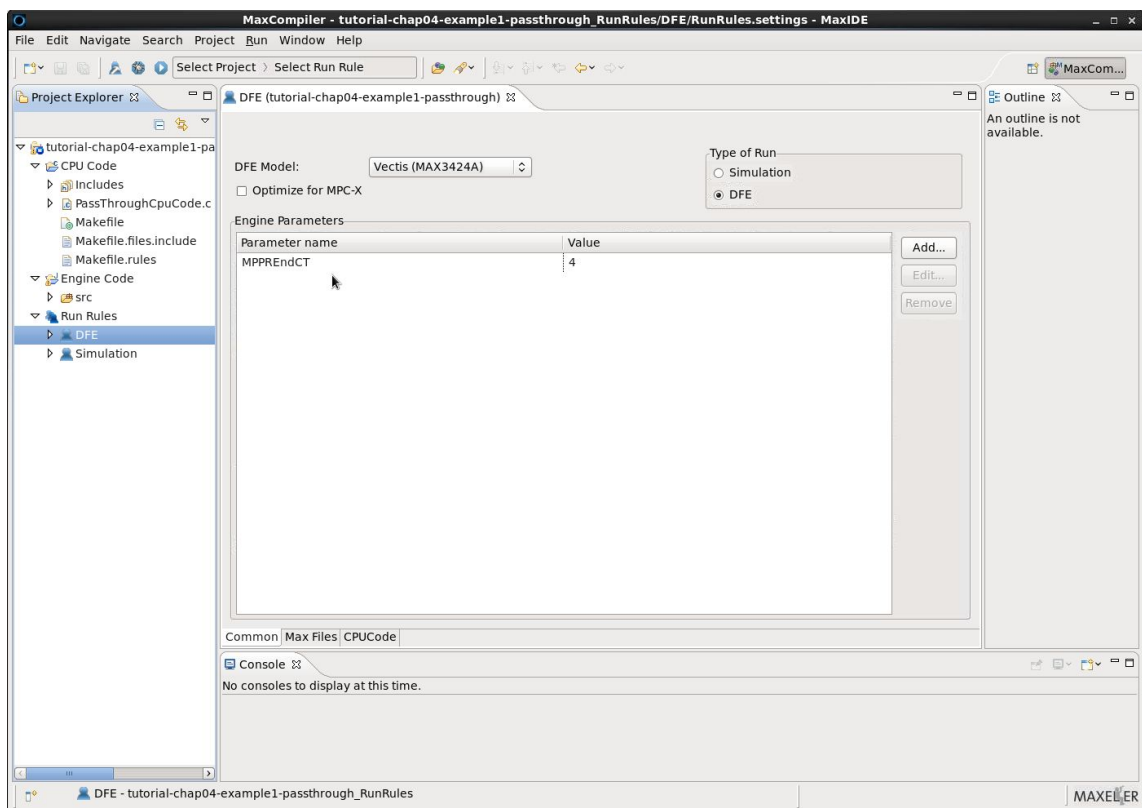

Figure 6.1: MaxIDE: Set number of the last cost table to be used
The process of fitting a design into hardware can be a challenging task. Design complexity, hardware resource, and desired frequency are just a few of the variables that effect the Place and Route process. Having all these variable factors along with other constraints results in a non deterministic approach to synthesizing a design and due to this multiple heuristics must be employed. Each of these heuristics used in the Place and Route phase of the build process are configured with starting parameters defined in a **cost table**. It is a good idea, especially when building complicated designs, to build with multiple cost tables as no cost table is guaranteed to build a design which meets timing and different cost tables will often result in different timing scores. The programmer may specify how many cost tables to build with in the DFE RunRule definition within MaxIDE - as shown at Figure 6.1.
1. Change cost tables that are going to be used in the build process; see Figure 6.1.